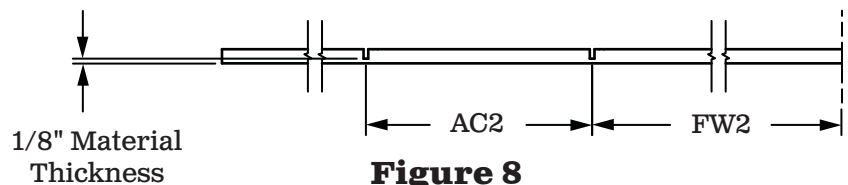

Figure 8
- 5) See **Figure 8**. Measure from center mark on liner and mark "FW2" front and rear. Snap chalk lines on both sides of center line.
- 6) See **Figure 8**. Measure from "FW2" mark on liner and mark "AC2" front and rear. Snap chalk lines on both sides of center line (4 scores total).